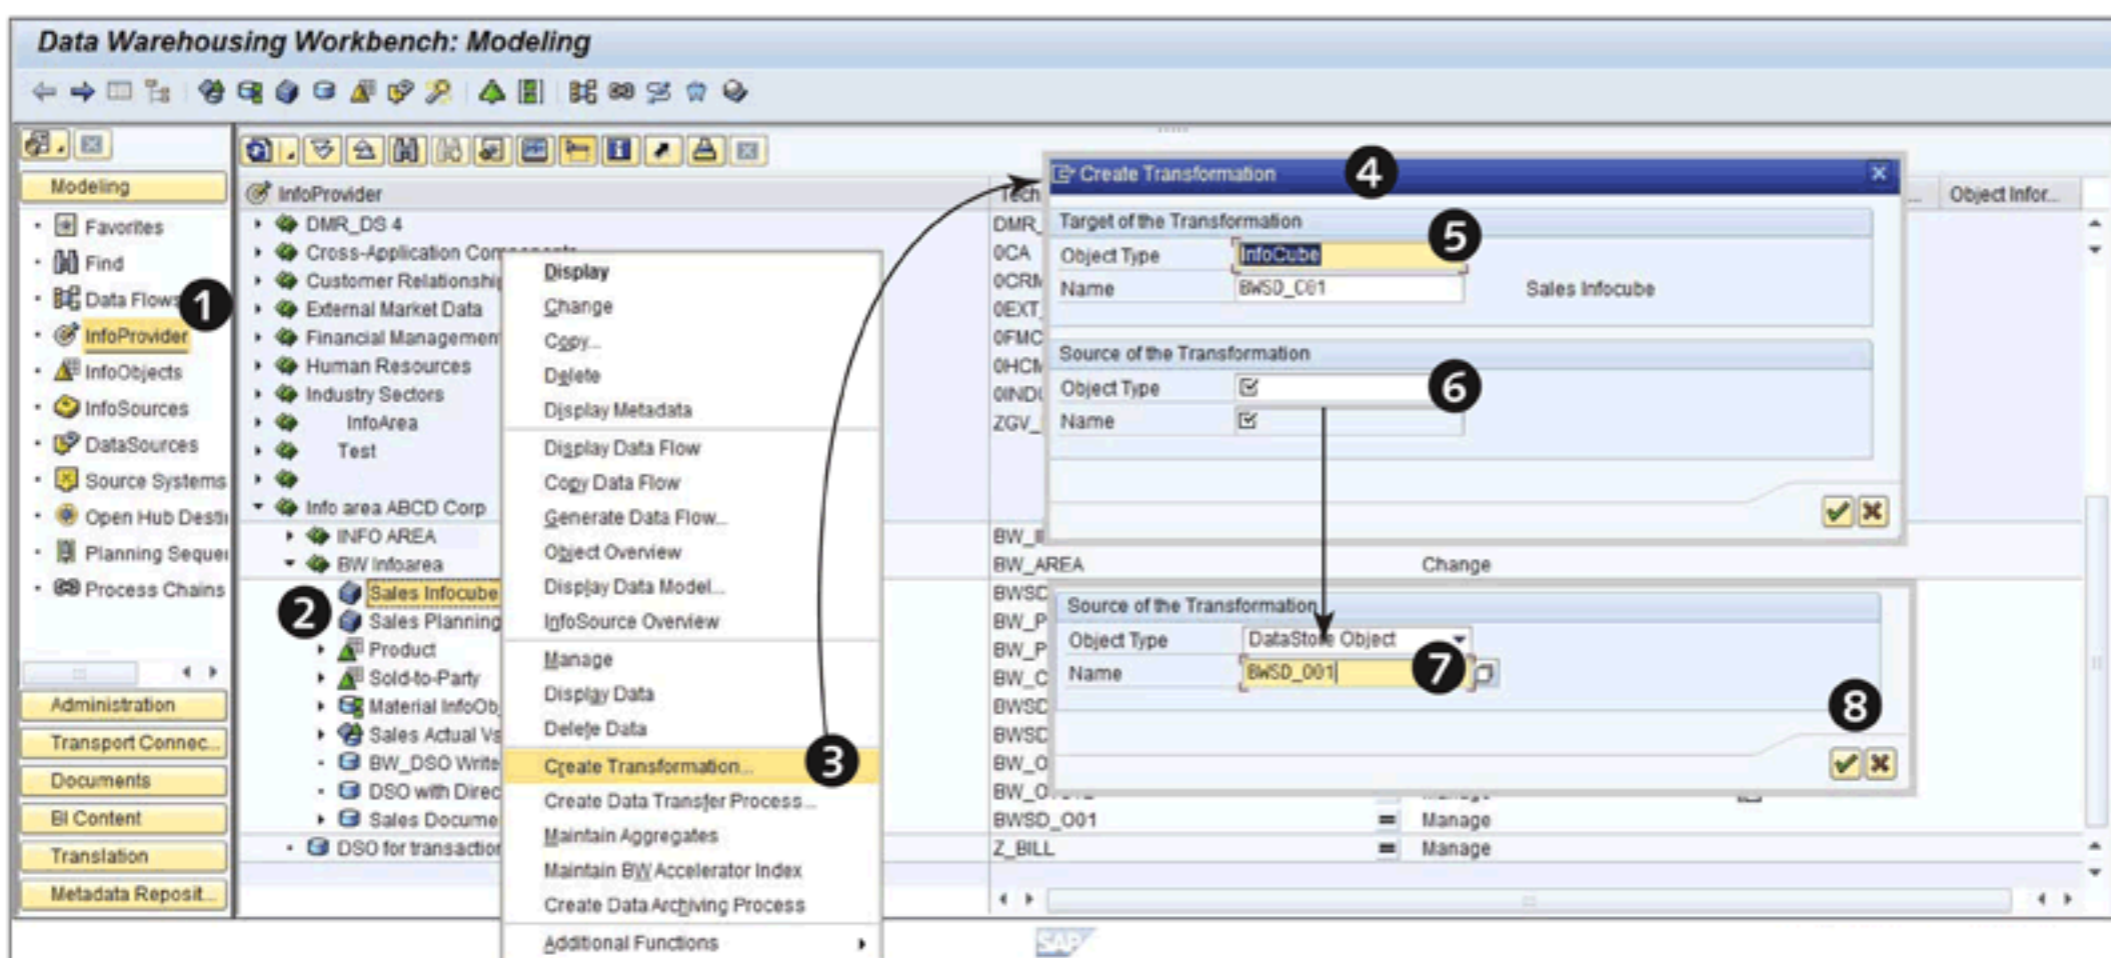

Figure 7.70 Creating Transformation for InfoCube
In the DWW, select the INFOPROVIDER section shown in ❶ of Figure 7.70; then select InfoCube BWSD_C01 from the INFOPROVIDER tree (❷). From the context menu, select CREATE TRANSFORMATION (❸), which results in the CREATE TRANSFORMATION box (❹). The target object and name are displayed (❺), and the source object and name are blank (❻). Select DATASTORE OBJECT from the OBJECT TYPE dropdown list, and enter "BWSD_001" (❼).